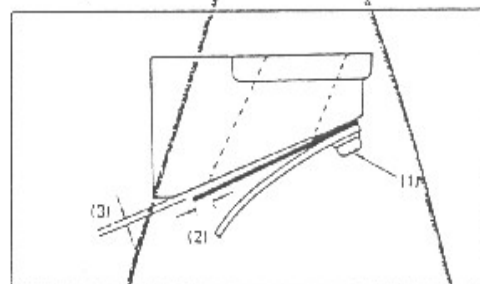

Fig. 2-60
Using a thickness gauge, check the clearance between reed valve and its seat. If this clearance (indicated as (3) in Fig. 2-60) is noted to exceed 0.2 mm (0.008 in), replace the whole reed valve assembly.
1. Tighten screws (1), Fig. 2-60, to a torque of anywhere between 0.07 ~ 0.09 kg-m (0.50 ~ 0.65 lb-ft), with LOCK CEMENT (99000-32040) applied to screw threads.
2. Check to be sure that the dimension (2), Fig. 2-60, is at least 1 mm (0.04 in).